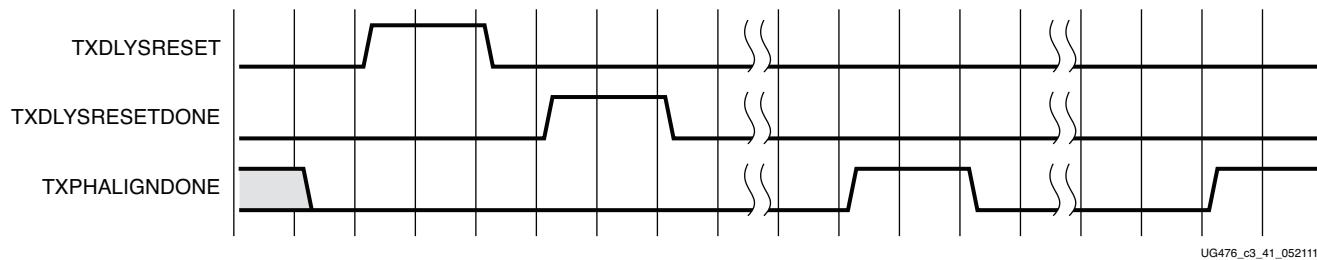

Figure 3-19: TX Buffer Bypass—Single-Lane Auto Mode (GTX Transceiver Only)
Figure 3-19 shows the required steps to perform the auto TX phase alignment and use the TX delay alignment to adjust TXUSRCLK to compensate for temperature and voltage variations.
Notes relevant to Figure 3-19:
1. The sequence of events in Figure 3-19 is not drawn to scale.
5. An assertion/deassertion of GTTXRESET is required if TXPHALIGNDONE does not follow the sequence shown in Figure 3-19.